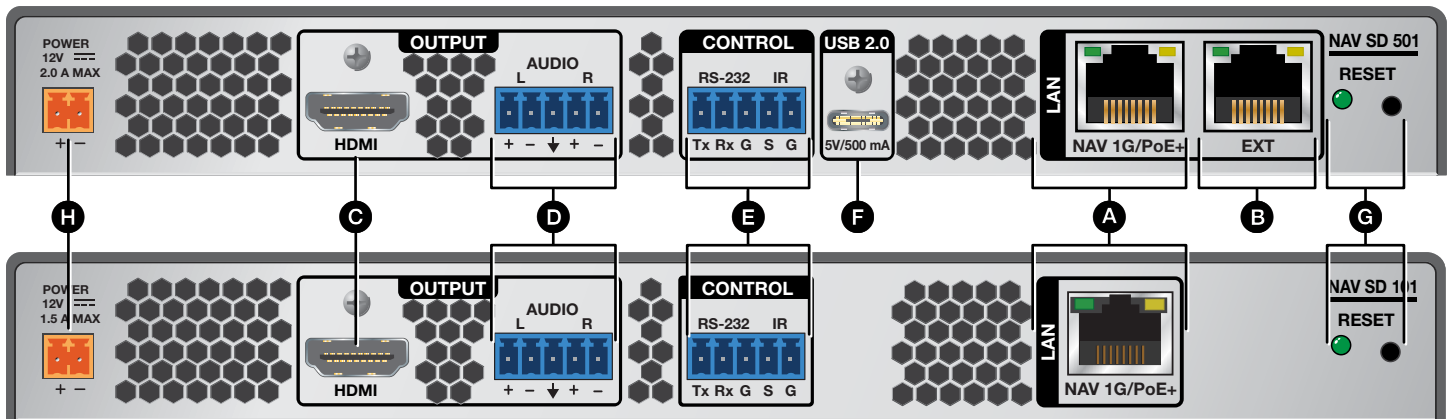
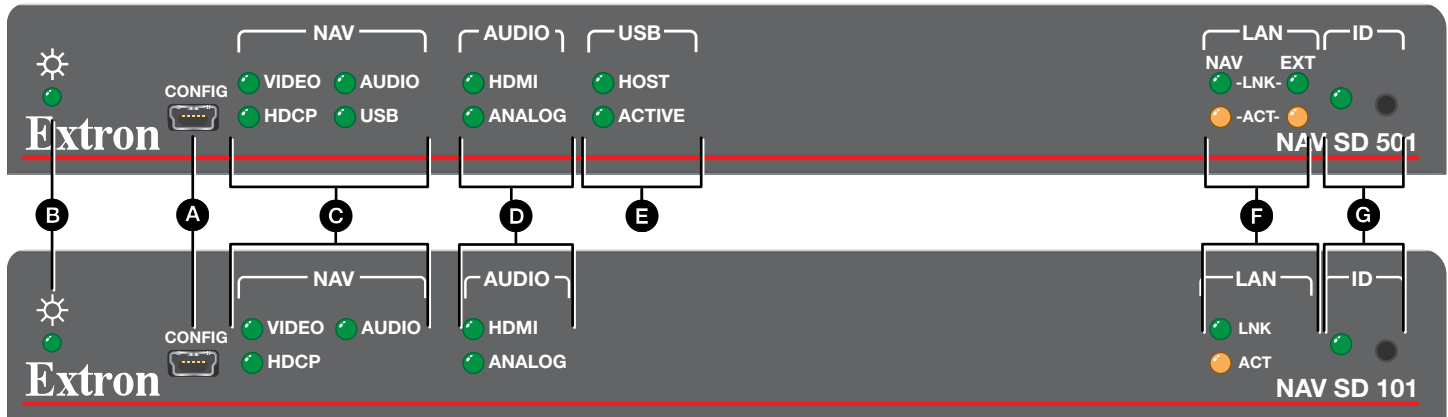

Figure 1. NAV SD 501 and NAV SD 101 Rear Panel Features
Figure 2. NAV SD 501 and NAV SD 101 Front Panel Features
- F LAN LEDs** (see figure 2 on page 2) — Indicate the status of the network connections, as follows:
- Locally, from the included external power supply via the power connector (see figure 1, **H** on page 1).
Connection to the decoder and its embedded web pages can be made via either the front panel Configuration (USB) port (using IP over USB) (see figure 2, **A**) or the rear panel NAV 1G/PoE+ port (see figure 1, **A**).